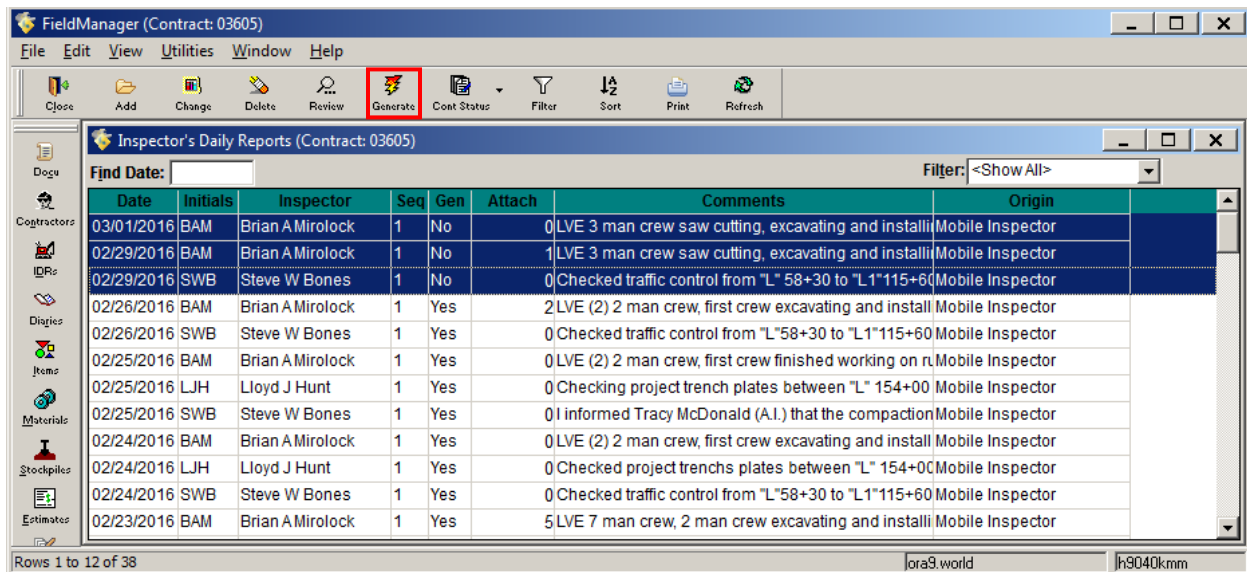

Figure 7-18. Inspector's Daily Reports List Window
1. Select one or more IDRs to generate from the IDR's list window. Click **Generate** on the Window Toolbar (Figure 7-18).